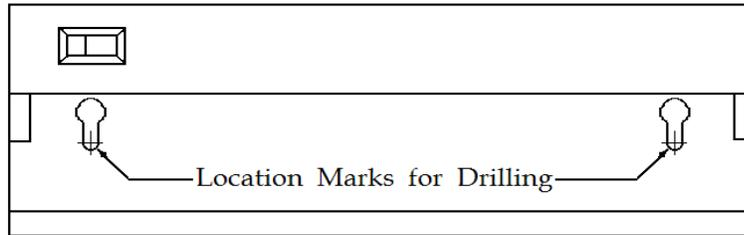

Figure 1
1. Insert mounting rails into lance tabs on both ends of the light so approximately 2" of rail extends out beyond the rear of the fixture. (See Figure 1)
2. Place a mark on the shelf in the center of the small end of each keyhole slot. (See figure 1)